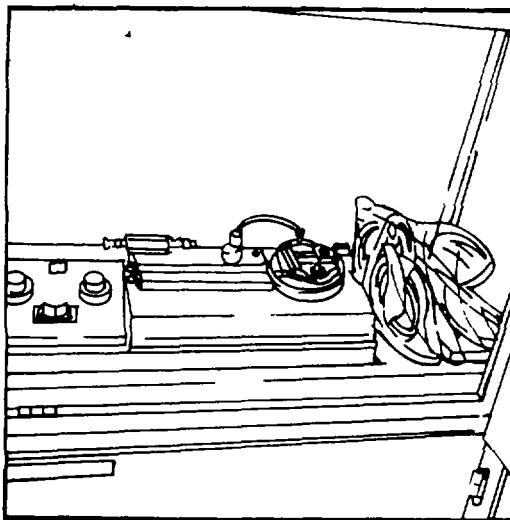

Figure 1-15. Flashpoint Tester
g. *Flashpoint Tester* (Figure 1-15). The Flashpoint Tester is designed to determine the presence of a fuel dilution in lubricating oils in nonaeronautical engines.